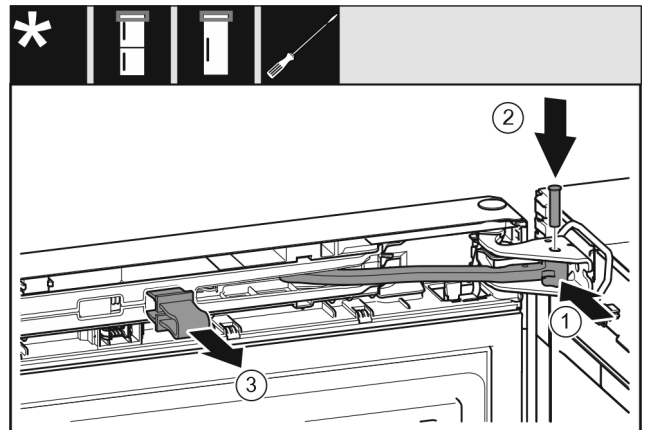

Fig. 50
- ▶ 将铰链转入托架。*Fig. 50 (1)*
- ▶ 将螺栓插入托架和铰链。同时注意止动凸轮需正确地处于凹槽中。*Fig. 50 (2)*
- ▶ 取下保险装置。*Fig. 50 (3)*